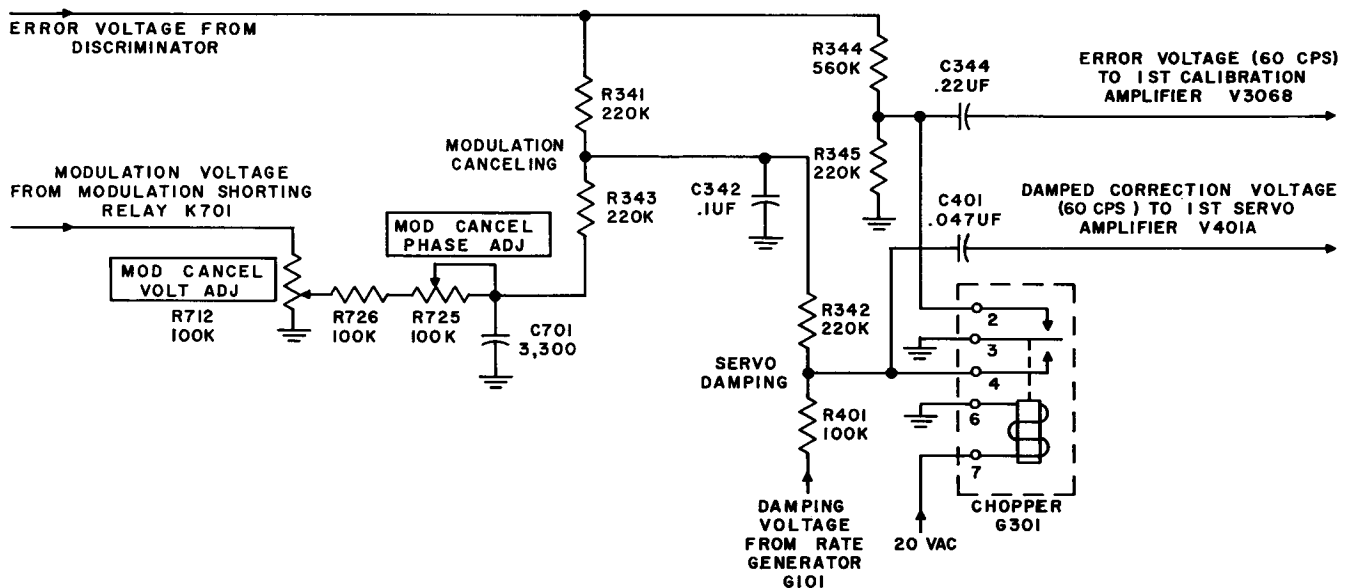

Figure 60. Modulation canceling, servo damping and chopper, simplified schematic diagram.
89. Modulation Canceling (fig. 60)
90. Servo Damping (fig. 60)
91. Chopper G301 (fig. 60)